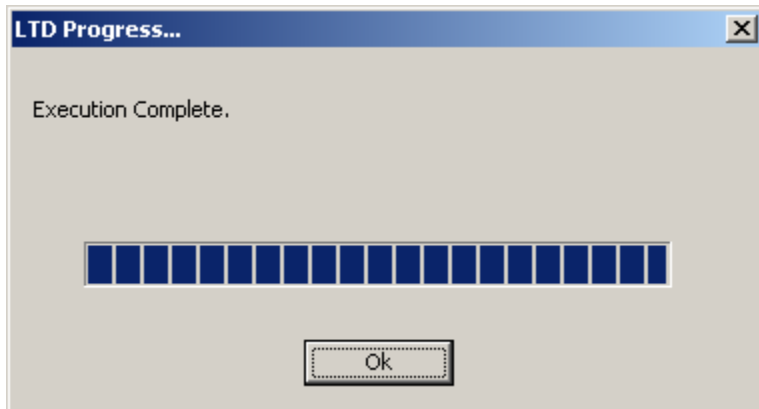

Figure 5-8—LTD Progress window.
- i) Click **Run** to run LTD. Once completed, the **LTD Progress...** window will open telling you it has finished. Click **OK** to close the window (fig. 5-8).